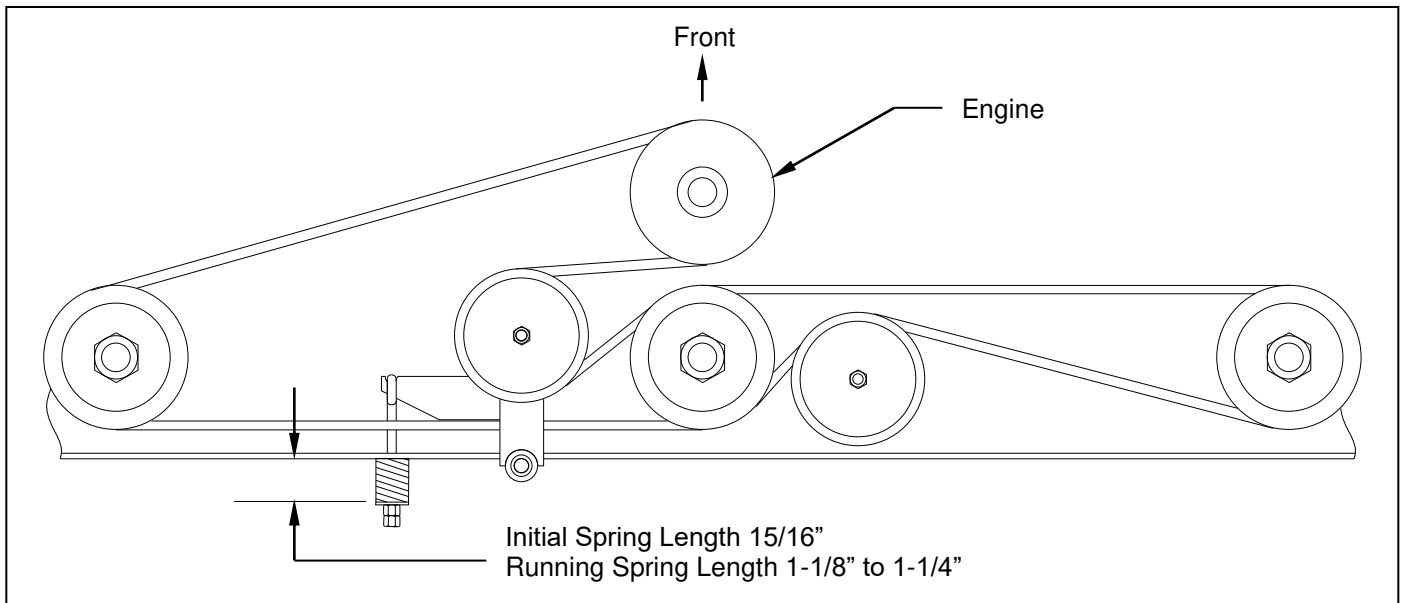

Figure 9: Belt Pattern and Spring Adjustment
A. DRIVE BELT REMOVAL AND TENSION (See Figure 9)